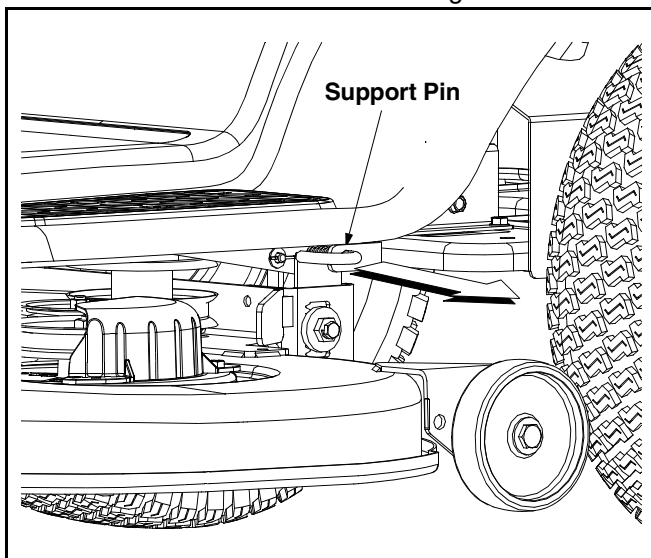

Figure 17
- Pull the deck support pin outward to release the deck from the deck lift arm. See Figure 17.